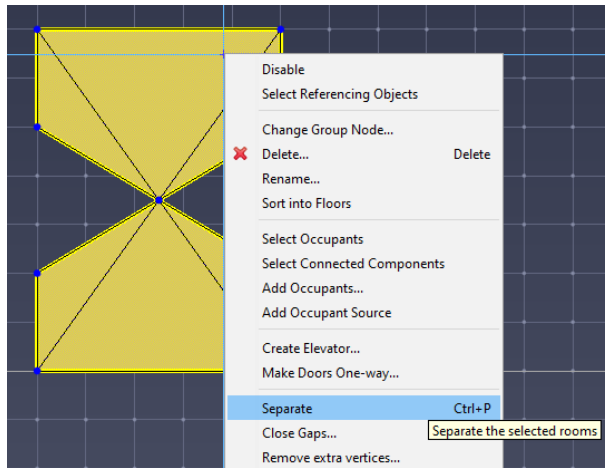

Figure 28. Single room shared point
2. Select **Separate** from either the **Model** menu or the right-click menu (Figure 28).